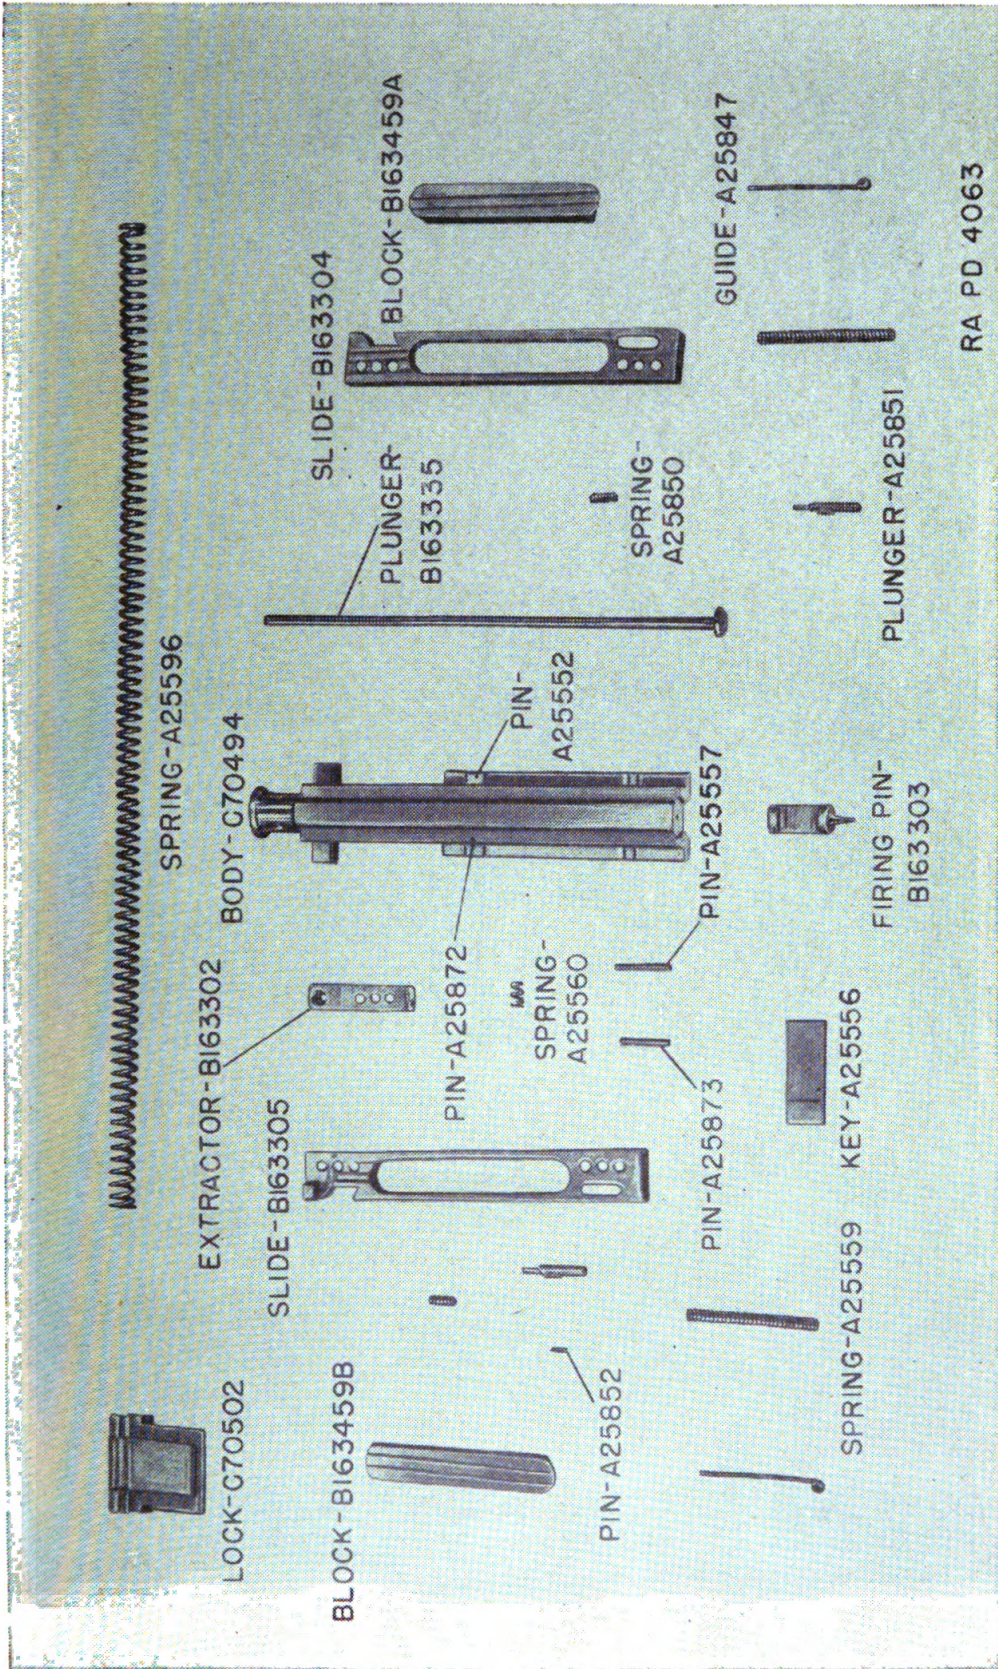

FIGURE 12—20-mm automatic gun M2, breechblock group parts.
d. Breechblock group.—Unlock and remove the breechblock group from the gun. Remove the inertia blocks by pushing against the rear end of the block from the inside. Remove the retaining pin and the plunger and spring. Remove the breechblock slides, taking care to restrain the springs. Remove the breechblock slide spring guides. Remove the firing pin. Grip the extractor, drive out the extractor pin, and remove the extractor and spring (fig. 12).